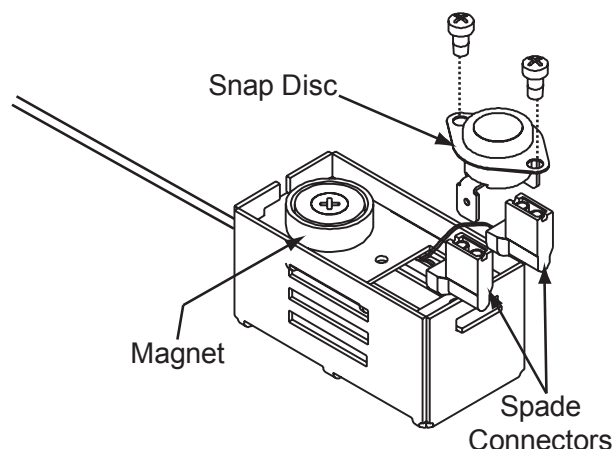

Figure 22.1
3. Pull the snap disc and spade connectors up and out of bracket as shown in **Figure 22.1**.